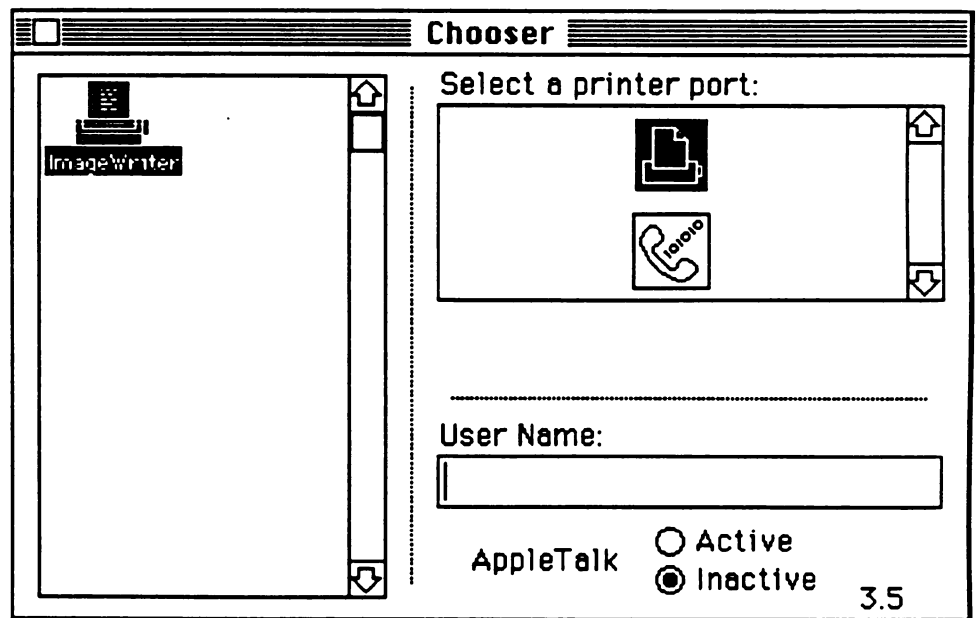

Figure 27. Choosing the printer port icon
- 6 If you have connected the ImageWriter II to the printer port, choose the printer port icon as shown in Figure 27. If you have connected the ImageWriter II to the modem port, choose the modem port icon.